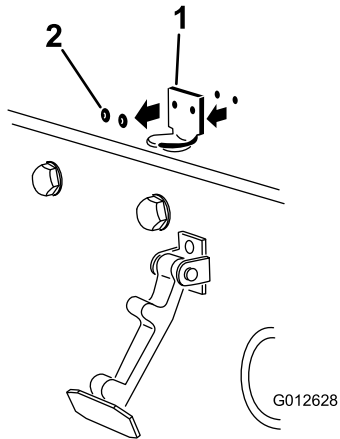

Figure 3
2. Remove the 2 rivets securing the hood-latch bracket to the hood (Figure 3). Remove the hood-latch bracket from the hood.